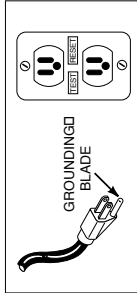

Figure 1
11. This equipment is only for use on 120 volt (single-phase) and is equipped with an approved 3-conductor cord and 3-prong, grounding-type plug as shown in Figure 1.
grounded 3-prong, grounding-type receptacle (as shown in Figure 1).
13. It is strongly recommended that this unit is plugged into a Ground Fault Circuit Interrupter (GFCI). Consult a local electrician for installation and availability (See Figure 1).